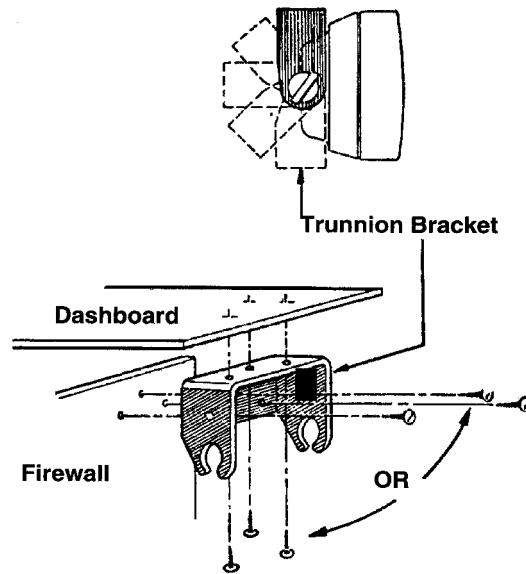

Figure 2-9. *Mounting the Speaker Under the Dashboard*
5. Mount the trunnion bracket with the screws supplied. Refer to Figure 2-9.